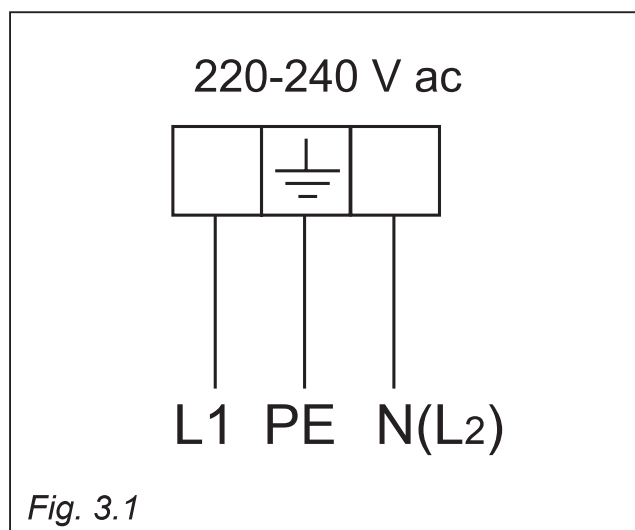

Fig. 3.1
- The electrical cable must be connected to the terminal board following the diagram of fig. 3.1.